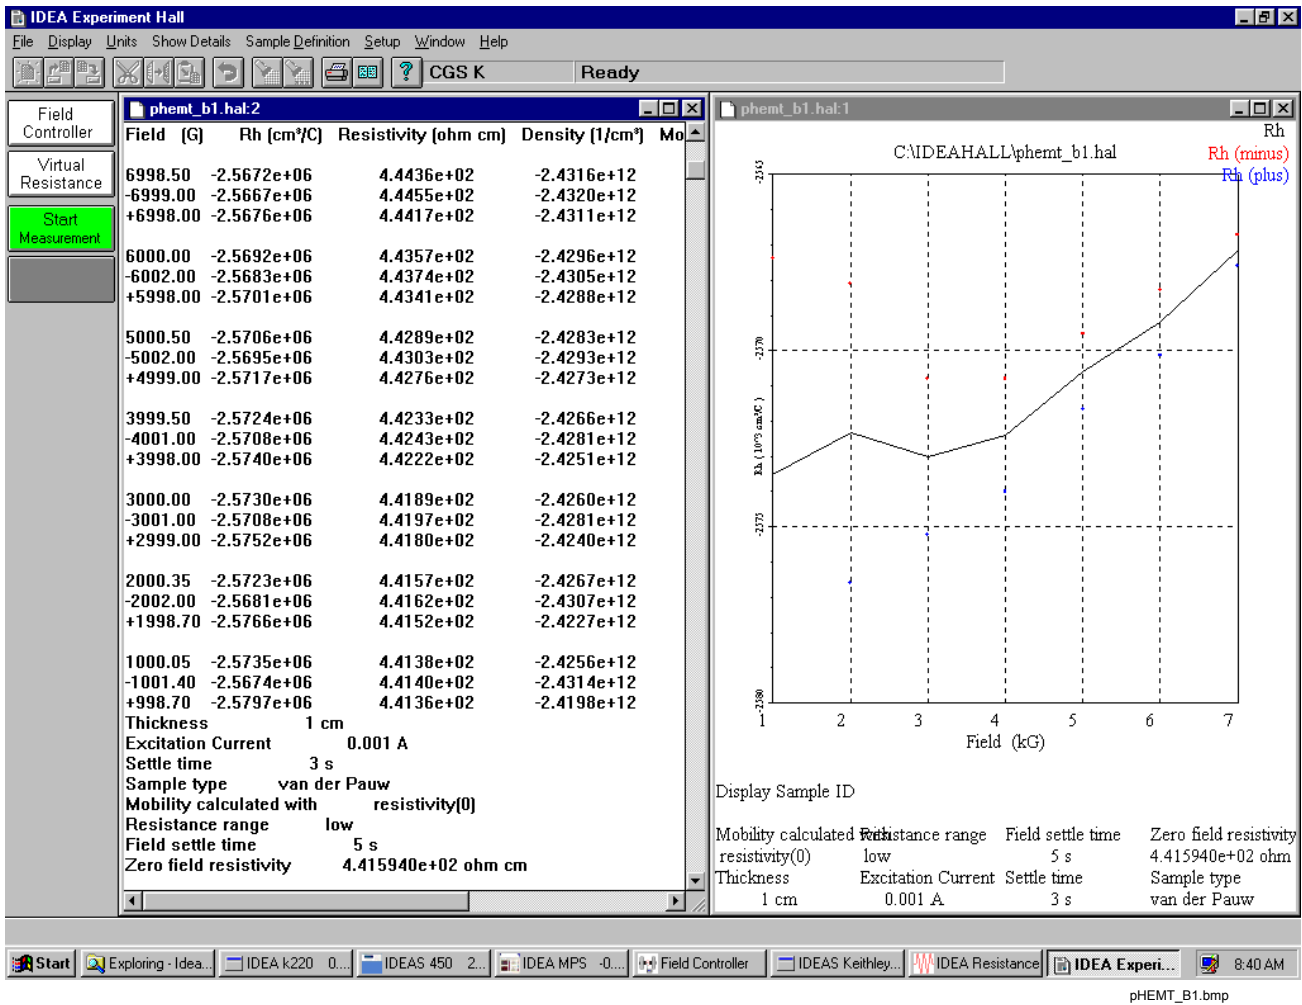

Figure 6-2. Variable field Hall effect measurement 'pHEMT_B1.hal' results in the Hall program
- Mobility calculated with resistivity (0)
9. When the measurement is Done, check the data and the plot. The results should look similar to those shown in Figure 6-2. At 5000 G, the Hall coefficient R_H should be in the range of - 2.5 to - 2.7 $\times 10^6$ cm^2/C , and the sheet resistivity ρ should be in the range of 400 – 500 Ω/square .